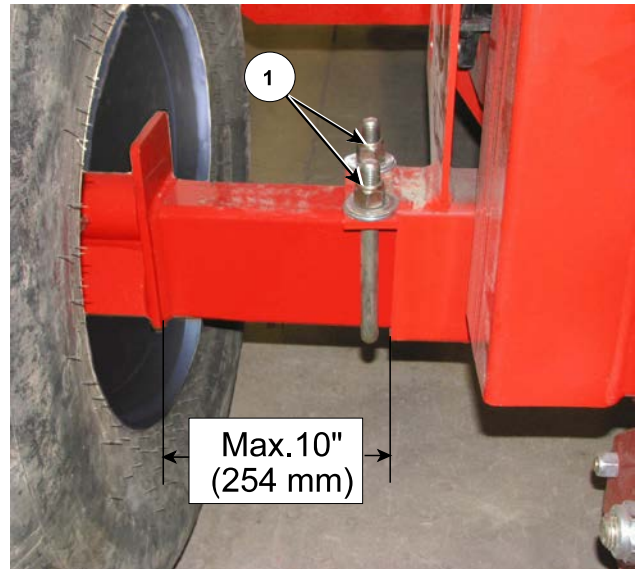

Figure 2: Extend the Left Axle
2. Extend the left axle, see *Figure 2*.